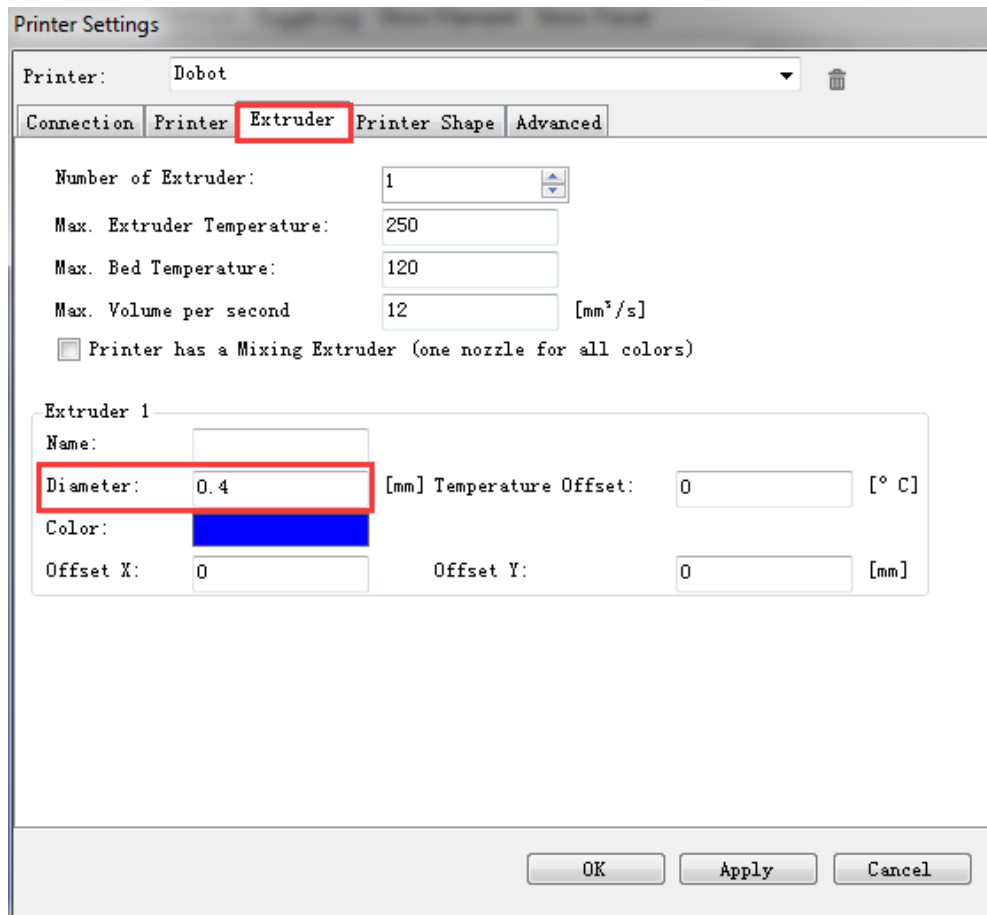

Figure 5.131 Extruder settings
5. Set the corresponding parameters on the **Extruder** tab as shown in the red box of Figure 5.131, the other parameters are set by default. Then, Click **Apply**.